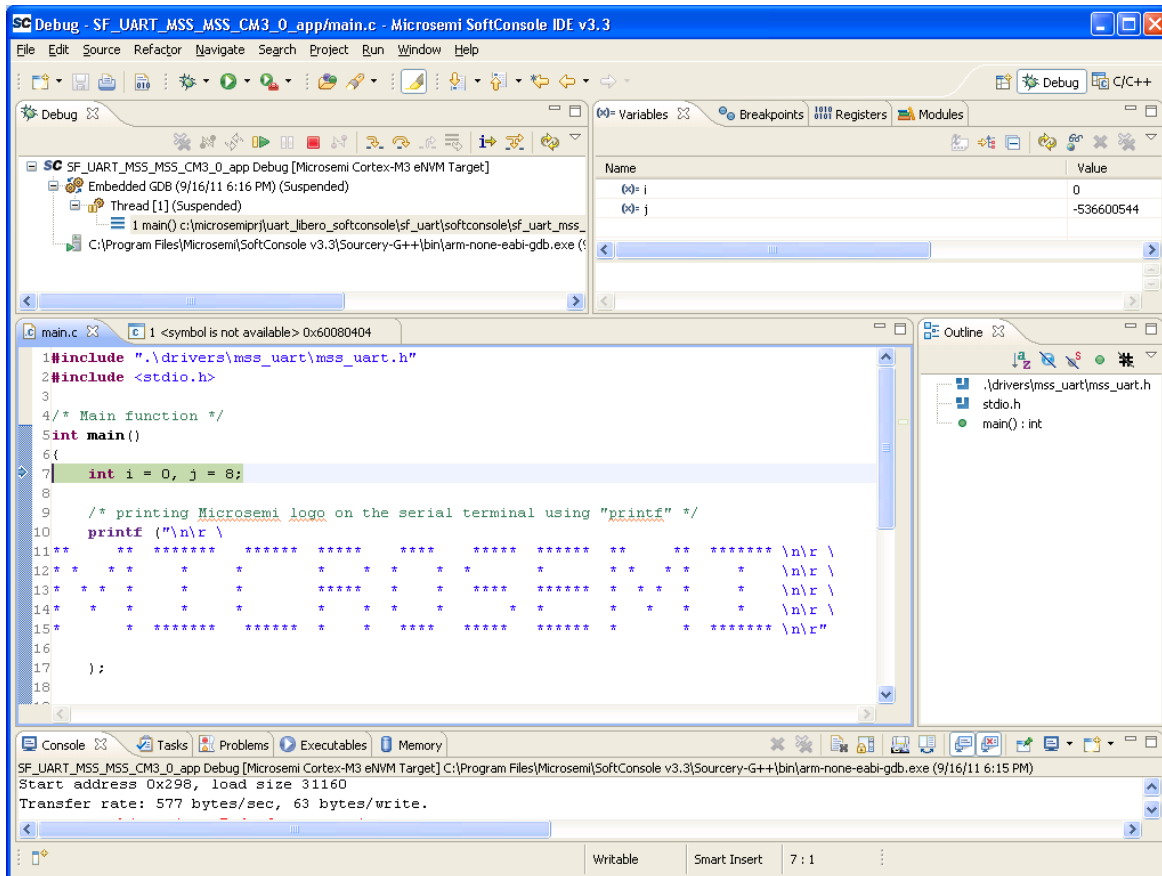

Figure 37 · The SoftConsole Debug Perspective
15. The SoftConsole Debug Perspective screen is displayed, as shown in Figure 37 · .